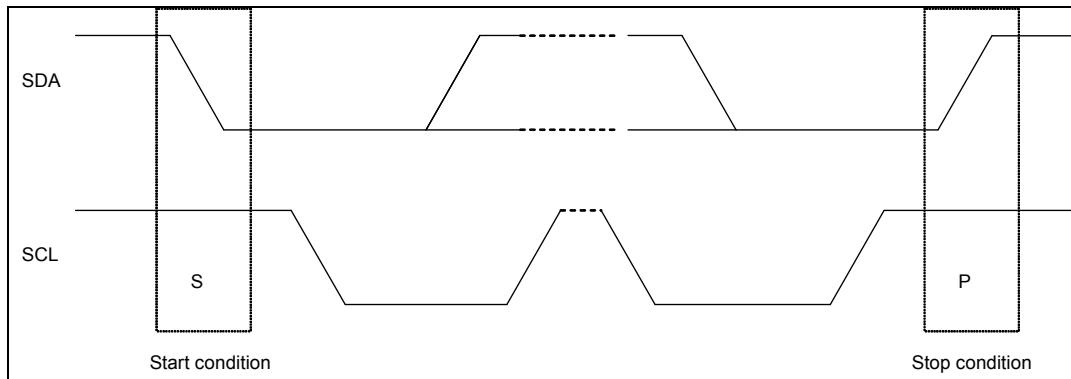

Fig. 5: I²C start and stop conditions
Data transfer begins by a falling edge on SDA when SCL is at high level, this is the start condition (S), initiated by the I²C bus master. It is stopped with a rising edge on SDA and SCL at high level, this is the stop condition (P) (see Fig. 5: I2C start and stop conditions).